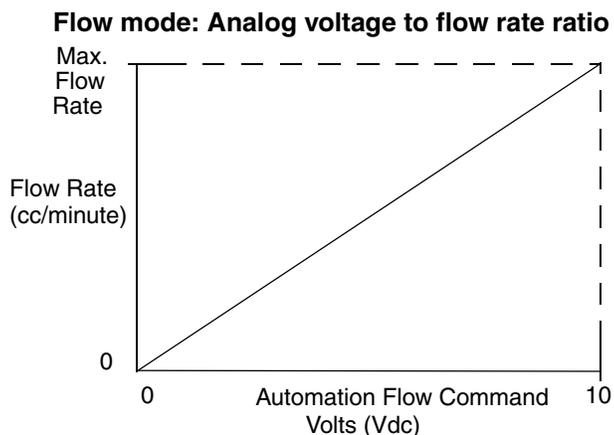

FIG. 18
3. Calculates a linear ratio of the automation analog input voltage to the desired flow rate. Refer to FIG. 18.